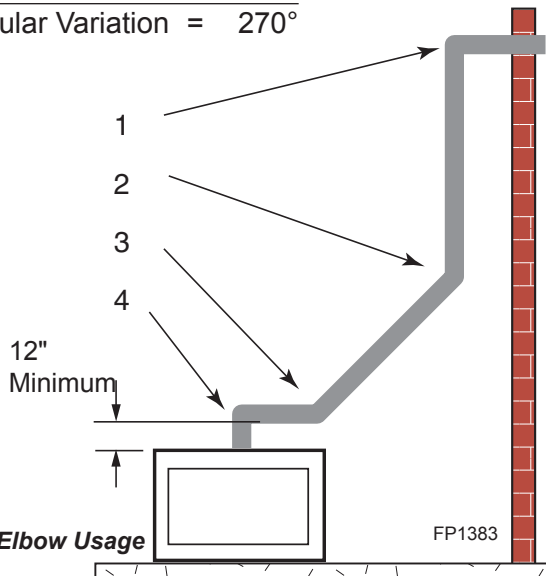

**Figure 17 -
- The maximum number of elbow degrees in a system is 270°. *Figure 17*